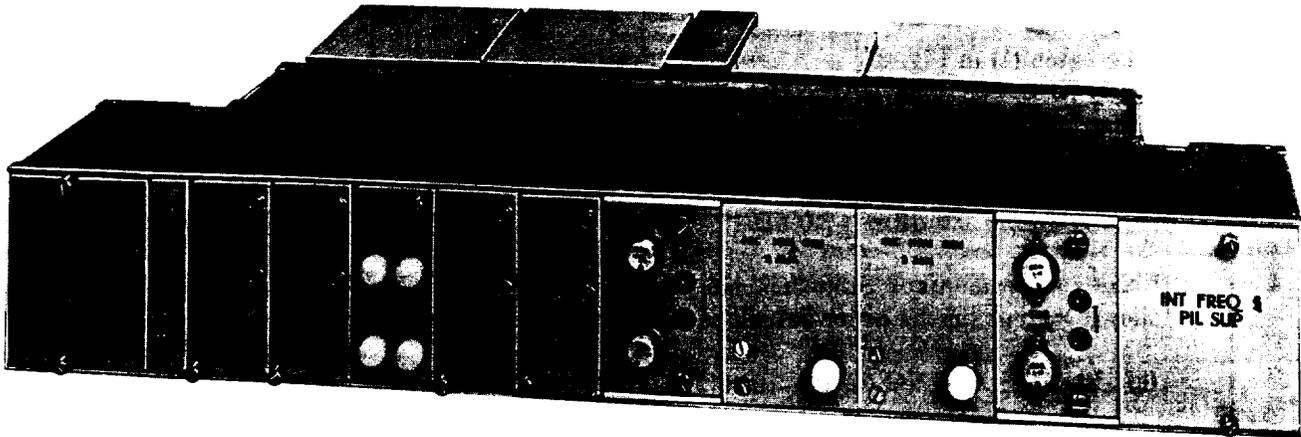
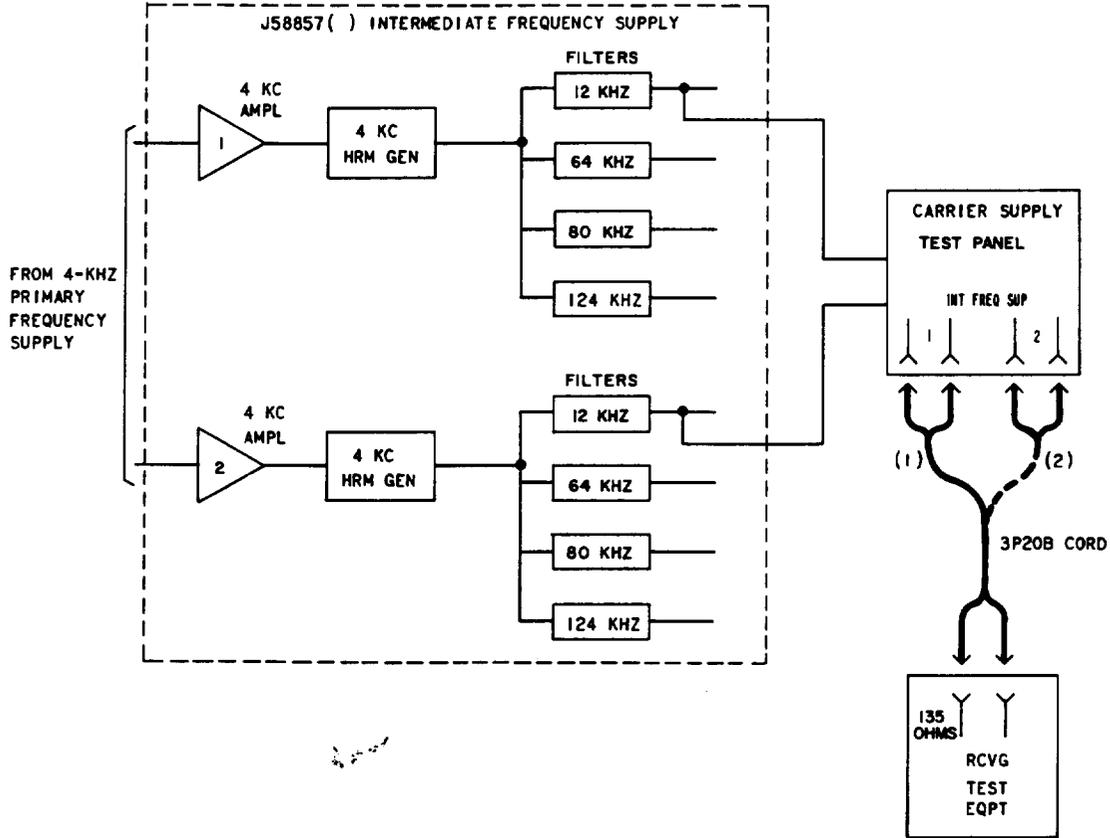

Fig. 1—J68857N Intermediate Frequency Supply Unit—Front View
Fig. 2—Intermediate Frequency Supply—Measurement of Output Power
To measure the output power of the J68857() intermediate frequency supply unit (see Fig. 1).
SYNOPSIS (SEE FIG. 2)
<p>Note: Wiring options provide for the measurement of 12 kHz at the carrier supply test panel. If troubleshooting is required at frequencies other than 12 kHz, refer to SD-50105-012, Fig. 16.</p> <p>1 Prepare the RTE (receiving test equipment) for a 135-ohm terminated measurement of 12 kHz at approximately 0.0 dBm.</p> <p>2 Make patch (1) in Fig. 2.</p> <p>3 Measure the 12-kHz output power at the INT FREQ SUP 1 jack on the carrier supply test panel.</p> <p>Requirement: 0.0 dBm \pm2.0 dB.</p> <p>4 If the requirement of Step 3 is met, proceed to Step 5. If it is not met, perform the following steps (in the order listed), as required, to meet the requirement.</p> <p>(a) Replace the 4 KC AMPL 1 (see Fig. 1) and repeat Step 3.</p> <p>(b) Check the 4-kHz input signals from the primary frequency supply.</p> <p>5 Remove patch (1) in Fig. 2 and make patch (2).</p> <p>6 Measure the 12-kHz output power at the INT FREQ SUP 2 jack on the carrier supply test panel.</p> <p>Requirement: 0.0 dBm \pm2.0 dB.</p> <p>7 If the requirement of Step 6 is met, proceed to Step 8.</p> <p>If it is not met, perform the following steps (in the order listed), as required, to meet the requirement.</p> <p>(a) Replace the 4 KC AMPL 2 and repeat Step 6.</p> <p>(b) Check the 4-kHz input signals from the primary frequency supply.</p> <p>8 Remove patch (2) in Fig. 2.</p>